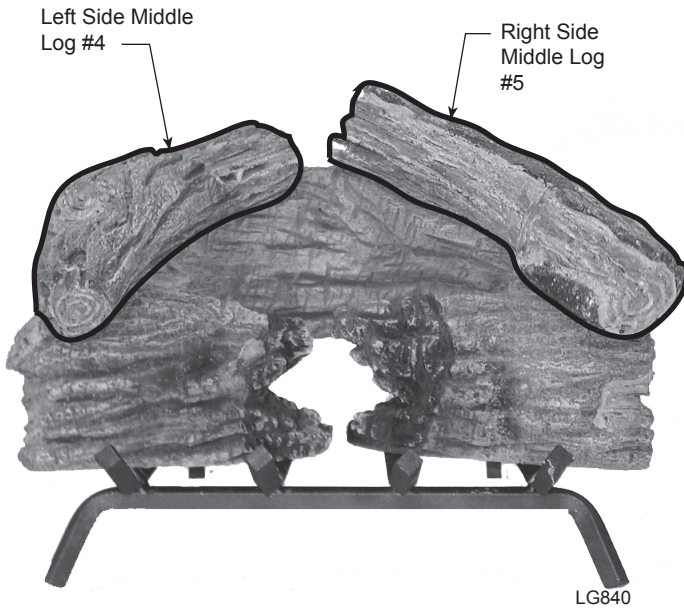

Figure 20 - Place Right and Left Side Middle Logs
5. Place left side middle log #4 as shown. *Figure 20*
6. Place right side middle log (#5). *Figure 20*